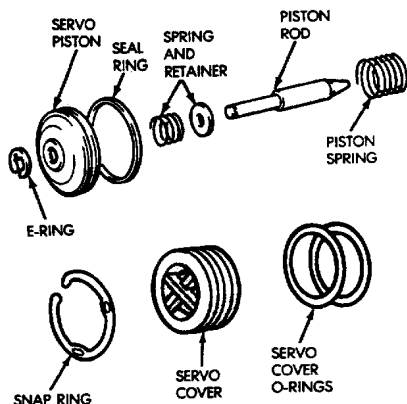

Fig. 35 Second Coast Brake Servo Components
(4) Remove and discard seal and O-rings from cover and piston (Fig. 35). Inspect E-ring, piston, spring and retainer, piston rod and piston spring. Replace worn or damaged parts.